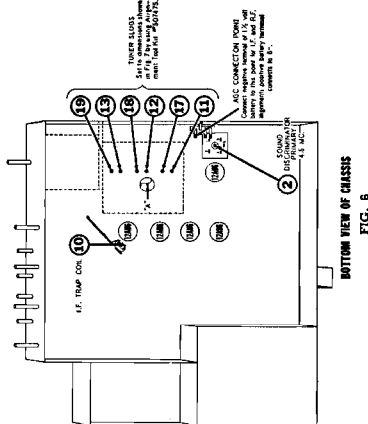

FIG. 6
GENERAL INSTRUCTIONS: When aligning IF and RF circuits it is necessary to apply a fixed bias voltage to the AGC system of the receiver. This fixed bias is obtained by using a 1½ volt battery and connecting it as described in Fig. 6.
- Connect a 1 1/2 volt battery to the receiver AGC system so that negative terminal of battery connects to the AGC line and positive terminal of battery connects to B-. See Fig. 6 for convenient point of connection.
- Note location of IF Trap Coil #10 by referring to Fig. 6. Before undertaking the alignment of any of the IF stages, Trap Coil #10 must be detuned so that it does not resonate in the IF pass band. Detuning is accomplished by merely compressing the windings so that they are closely spaced. Failure to detune the Trap Coil can cause the IF system to become regenerative thereby preventing alignment.
Attenuated area ("plateau") on sound carrier side of IF band pass characteristic (Fig. 9) is obtained by adjusting the spacing of the winding of Trap Coil #10 (see Fig. 6 for location of this coil). By spreading the coil winding a small amount, and observing